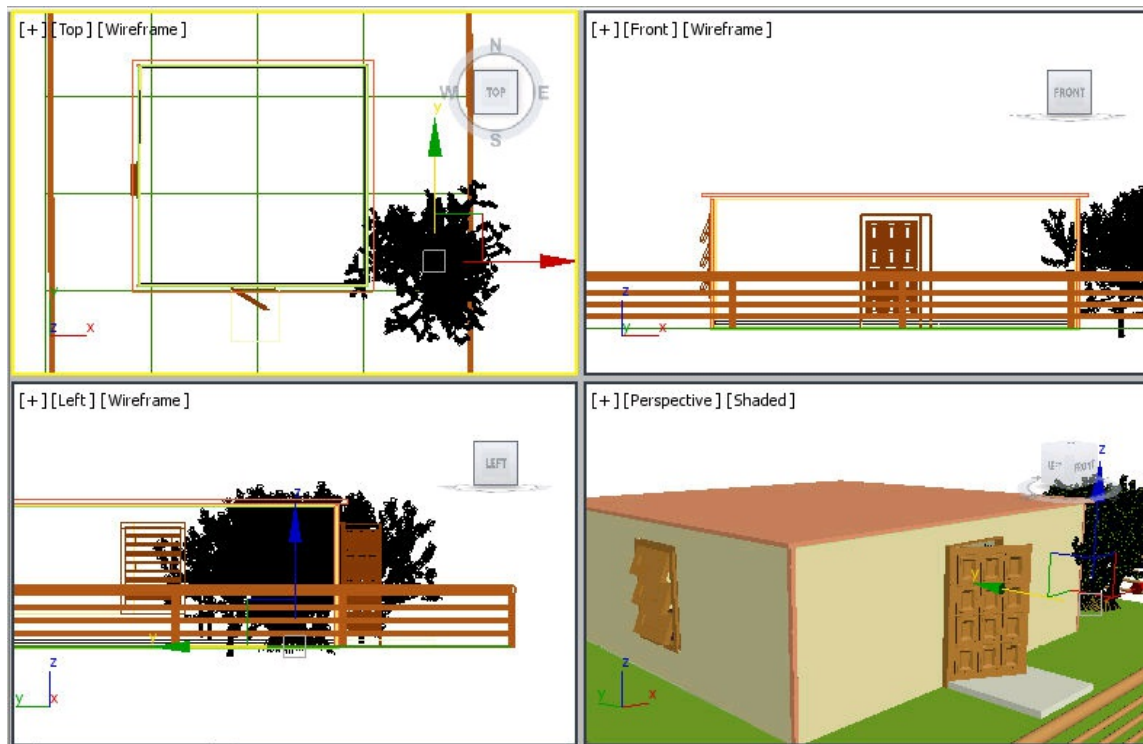

Figure 4-84 The tree01 geometry displayed in viewports after alignment
6. Choose the **Select and Move** tool and align *tree01* in the Top viewport, as shown in Figure 4-84.